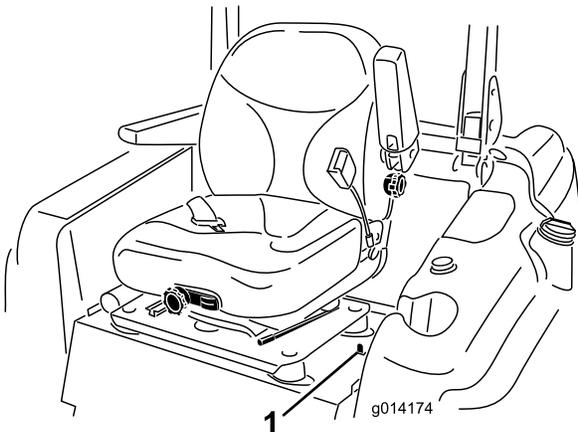

Figure 11
1. Move the seat latch, located on the left side of the seat, rearward to unlatch the seat and pull forward on the top of the seat (Figure 11).